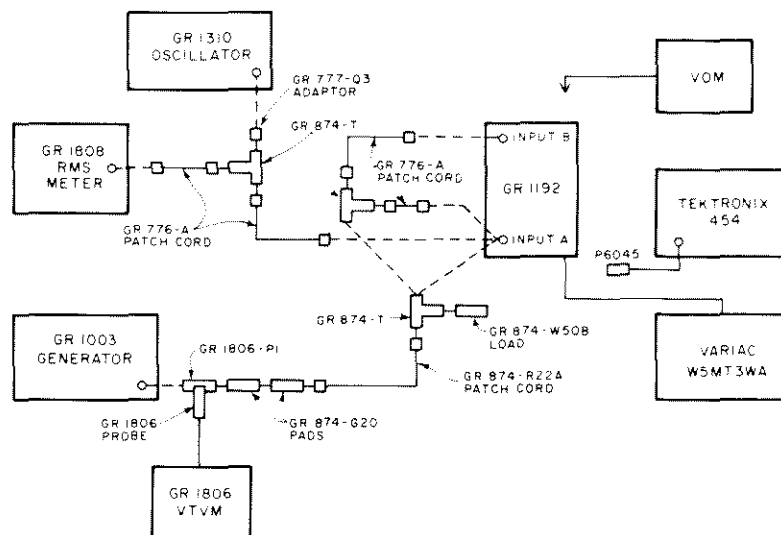

Figure 5-1. Test setup.
- Connect the 1310 to INPUT A as shown in Figure 5-1.
- Connect a second 874-T to the original tee and thence to the B-INPUT jack at the rear of the 1192, via a GR 776-A patch cord, as shown in Figure 5-1.
- Remove one 20-dB pad from the circuit shown in Figure 5-1 and connect the generator to one leg of the second coaxial tee that goes to INPUT A and B on the 1192.
c. Unlatch the external time-base button (to the 1 MHz position). Apply the signal from the 1003 also to the input B channel. See Figure 5-1 for interconnection details.
If unable to obtain the performance called for in the minimum performance procedures of paragraph 5.3, use the procedures that follow to isolate trouble to a replaceable detail part. Refer to Figure 5-1 for test-equipment connection and to Table 5-1 for suggested test equipment. Full circuit details and parts information, given in Section 6, used in conjunction with the circuit theory presented in Section 4, should facilitate repair.
b. Prepare a test set-up as shown in Figure 5-1.
a. With the 1192 in the FREQUENCY mode, apply a 10-kHz signal with the 1310 oscillator to INPUT A. See Figure 5-1 for the set up.